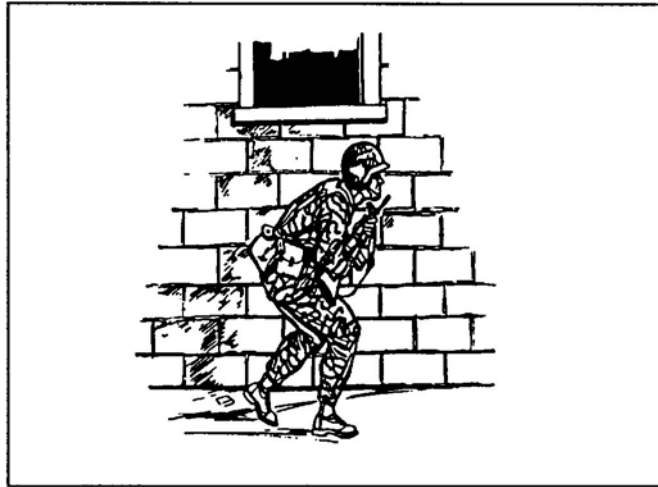

Figure 4. Movement past window.
- (1) The right way to pass first-floor windows is to stay as close to the building as possible. When the window is reached, duck the head well below the window.
- (2) Always take care not to be silhouetted in a window (Figure 4).